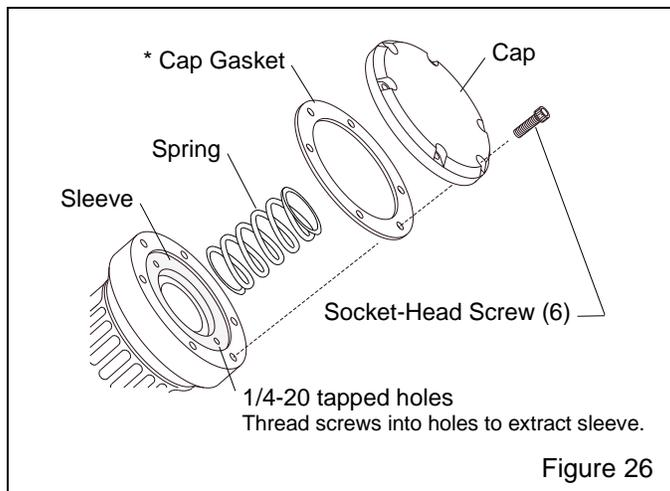

Figure 26
7.3.1.2 Unscrew the six socket-head screws to remove the cylinder cap, cylinder cap gasket, and spring, as shown in Figure 26.